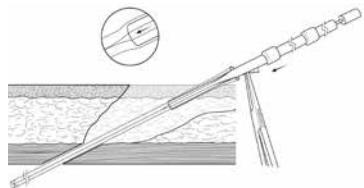

Figure 22
5. Insert catheter (with stylette) carefully into the Luke Guide. Be sure to follow the angle of the Luke Guide through the rectus muscle (Figure 22).